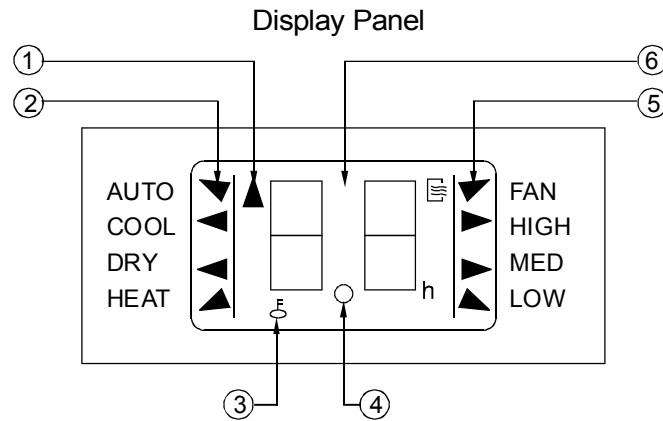

Fig. 2
- ① **TRANSMISSION Indicator:** This indicator lights when remote controller transmits signals to indoor unit.
- ② **MODE Display:** Shows the current operation modes-- AUTO, COOL, DRY and HEAT. HEAT only available for heat pump model.
- ③ **HEAT PUMP ONLY - LOCK display** is displayed by pushing the LOCK button. Push the LOCK button again to clear display.
- ④ **TIMER Display:** This display area shows the settings of TIMER. That is, if only the starting time of operation is set, it will display the TIMER ON. If only the turning off time of operation is set, it will display the TIMER OFF. If both operations are set, it will show TIMER ON OFF which indicates you have chosen to set both the starting time and off time.
- ⑤ **FAN Display:** When the FAN button is pushed, this signal indicator lights.
- ⑥ **Digital Display Area:** This area will show the temperature and, if in the TIMER mode, will show the ON and OFF settings of the TIMER.
**▲ NOTE:** *All items are shown in the Fig.2 for the purpose of clear presentation But during the actual operation only the relative functional items are shown on the display panel.*